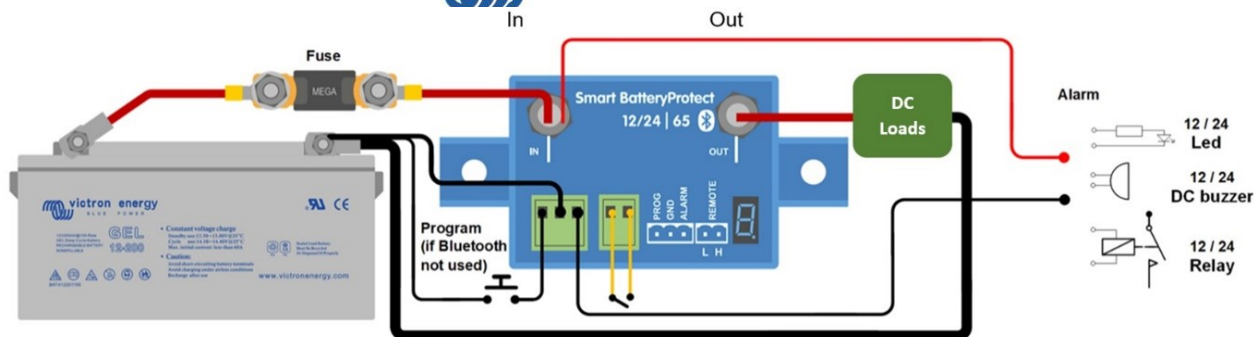

Figure 1: Connection diagram of the SBP-65 (use the remote input for system on/off functionality)
8. A remote on-off switch can be connected between Remote H and Remote L (see figure 1). Alternatively, terminal H can be switched high (to battery positive), or terminal L can be switched low (to battery negative).
9. A buzzer, LED or relay can be connected between the alarm output terminal and the battery positive (see figure 1). Maximum load on the alarm output: 50 mA (short circuit proof).